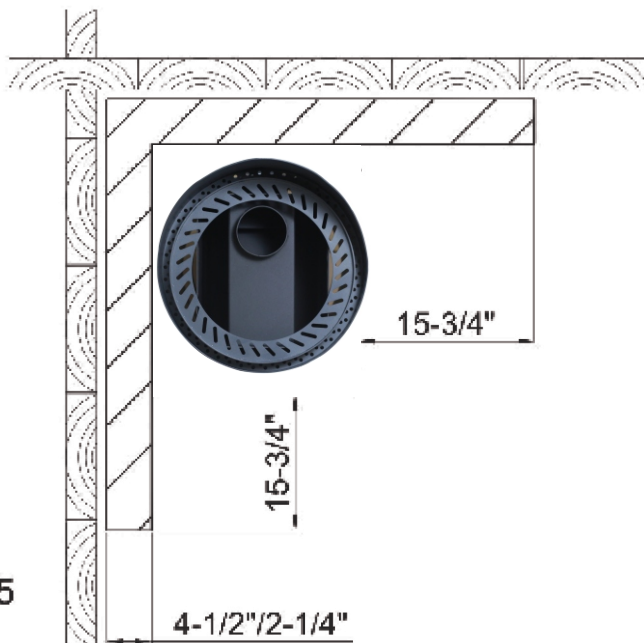

Figure 5
5. A 2-1/4" embedding with open sides at a minimum 1-1/4" distance away from the protected surface is equivalent for a single light protection. Likewise, a 4-1/4" embedding not touching the protected surface would be equivalent for a double light protection. (Figure 5)